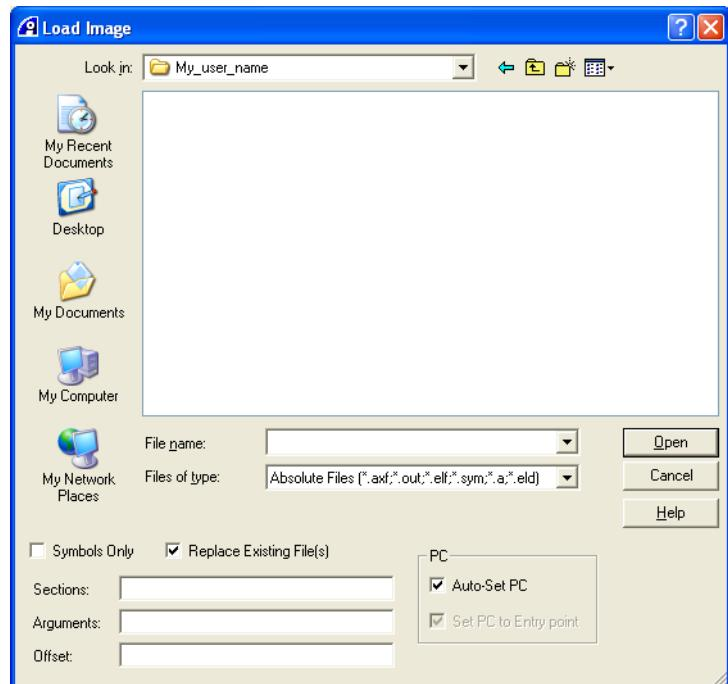

Figure 4-1 Load Image dialog box
Figure 4-1 shows an example:
2. Select **Load Image...** from the **Target** menu to display the Load Image dialog box. Figure 4-1 on page 4-5 shows an example.
4. Select **Load Image...** from the context menu to display the Select Local File to Load dialog box. Figure 4-1 on page 4-5 shows an example.
With a connection established, you can load an image by dragging the appropriate executable file and dropping it into the **Home Page** tab, **Disassembly** tab, or a source file tab. If successful, this is the same as loading the image using the Select Local File to Load dialog box with the default settings (shown in Figure 4-1 on page 4-5), that is the load auto-sets the PC and overwrites any existing image on the debug target.